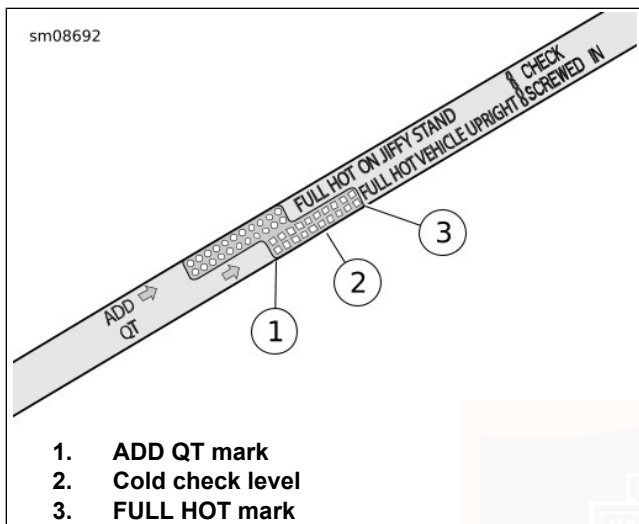

Figure 64. Engine Oil Dipstick (VEHICLE UPRIGHT Gauge)
- e. See Figure 64. Check oil level. The correct cold oil level is midway (2) between the ADD QT (1) and FULL HOT (3) marks on the dipstick.
5. Check oil level. Add only enough to bring level midway between the ADD QT (1) and FULL HOT (3).
- e. See Figure 64. Check oil level. Oil level must register between the ADD QT and FULL HOT marks on the dipstick.